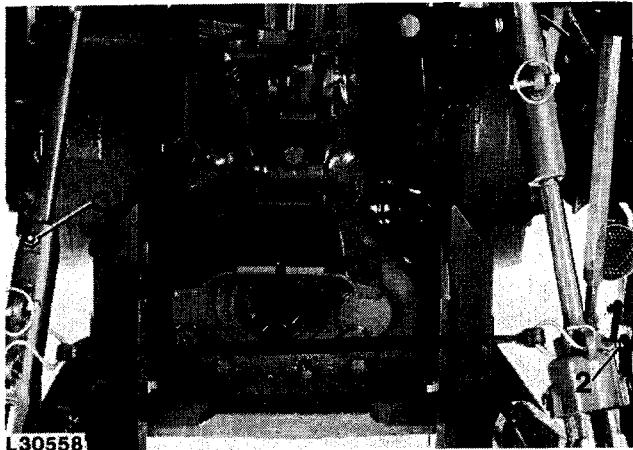

Fig. 29 – Lift Link Grease Fittings (Tractors with OPU Cab)
1. Lubricate lift link oiler 1 (fig. 29) using engine oil.